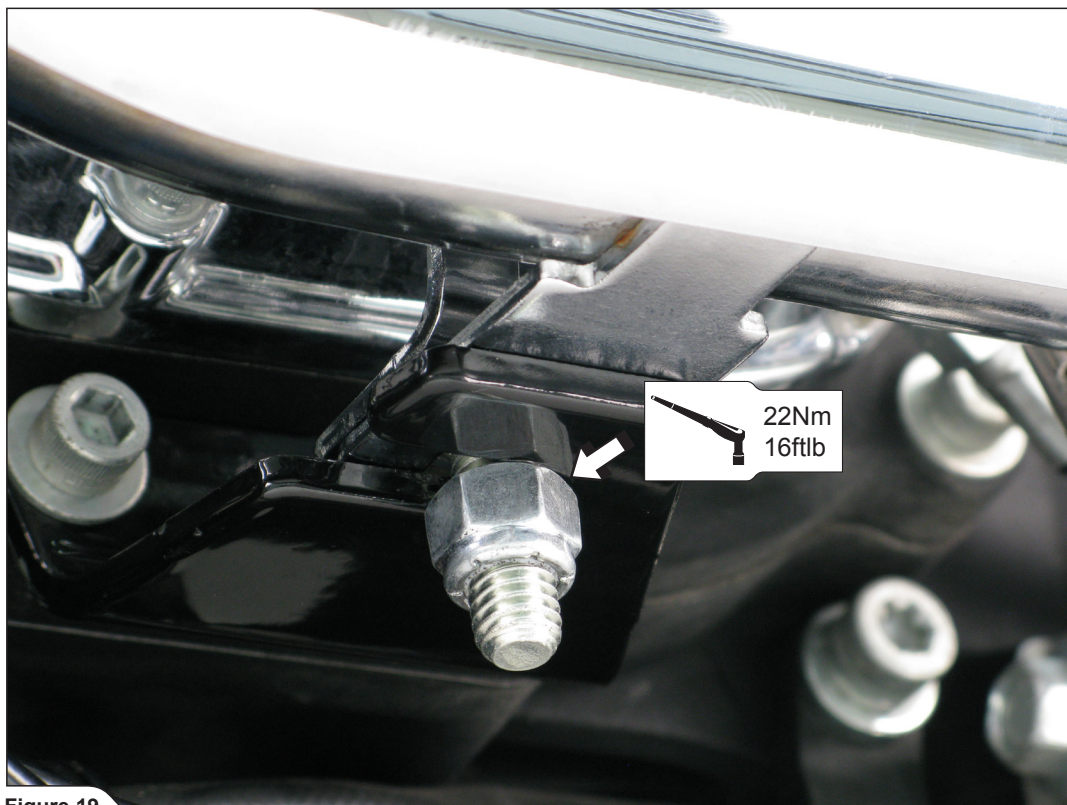

Figure 19
9. Tighten marked bracket bolt with the specified torque (Figure 19).